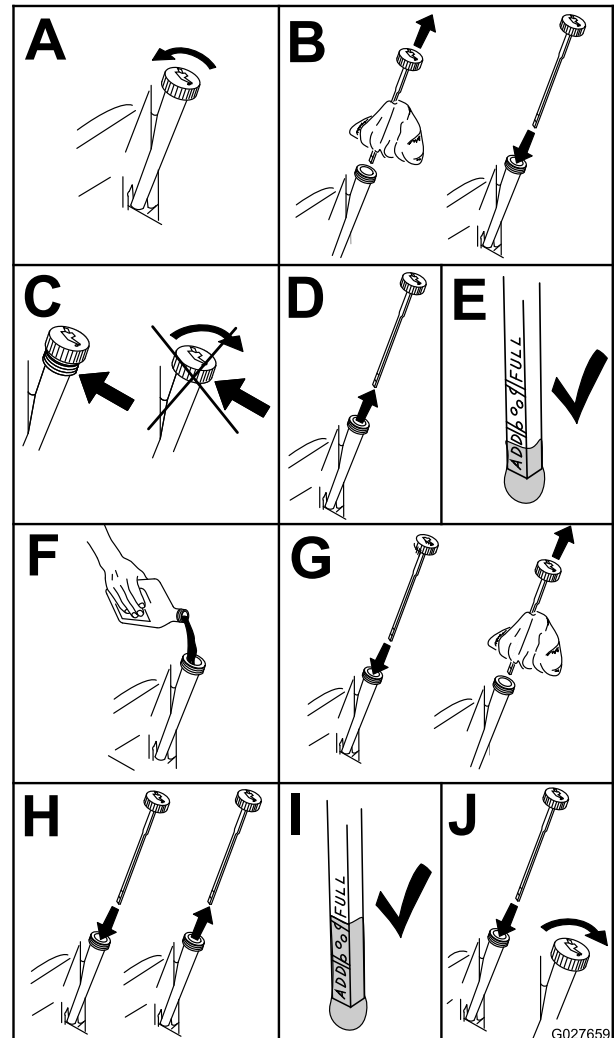

Figure 44
2. Shut off the engine, remove the key, and wait for all moving parts to stop before leaving the operating position (Figure 44).